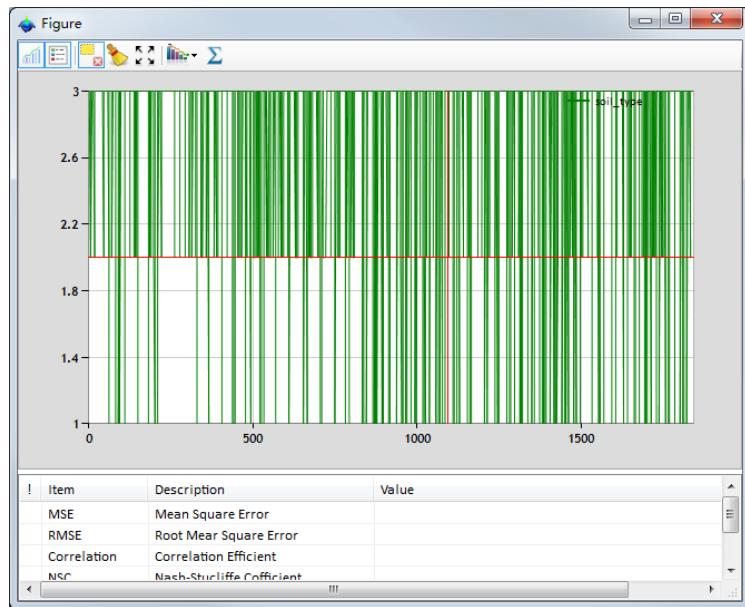

Figure 5-11. Figure shows distribution of the soil_type parameter.
- 12) A window entitled “Figure” will be prompted as shown in Figure 5-11.